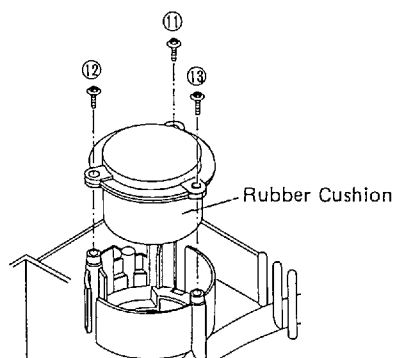

Fig. 5
1. Remove the 3 turntable drive motor setscrews (Fig. 5: ⑪ ~ ⑬) and pull out the turntable drive motor with rubber cushion from the cabinet.